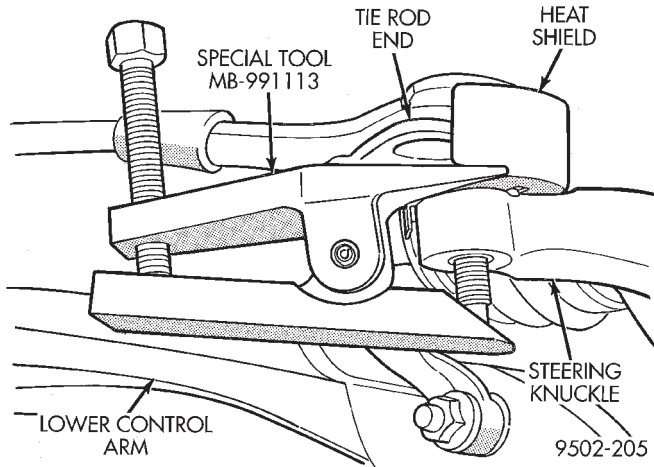

Fig. 27 Tie Rod End Removal From Steering Knuckle
(3) Remove tie rod end stud, from steering knuckle, using Remover, Special Tool MB-991113 (Fig. 27).
(4) Remove outer tie rod end from inner tie rod by un-threading it from the inner tie rod.